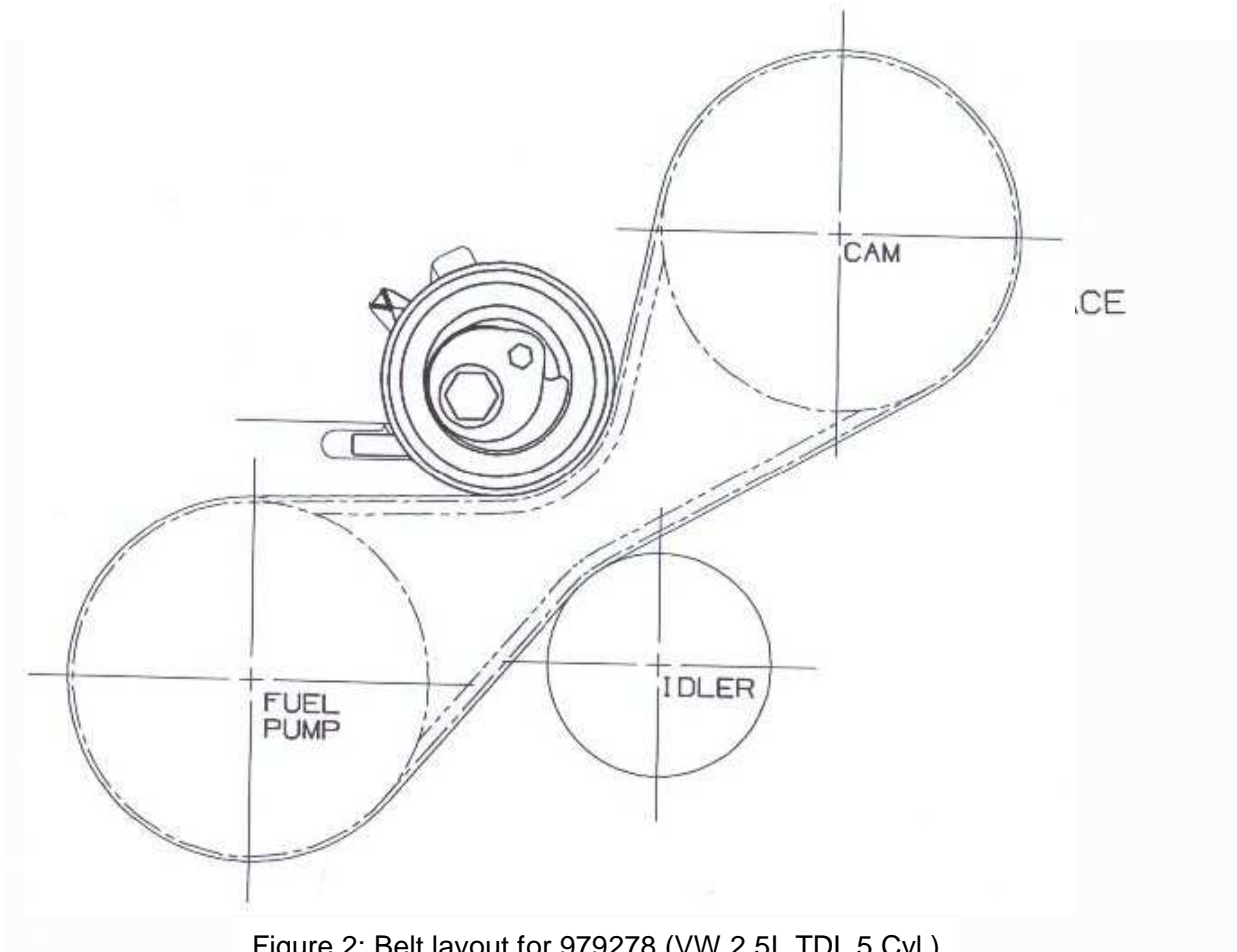

Figure 2: Belt layout for 979278 (VW 2.5L TDI, 5 Cyl.)
6. Install the timing belt being careful to engage the appropriate teeth of all the corresponding sprockets as per drive layout (See Figure 2).